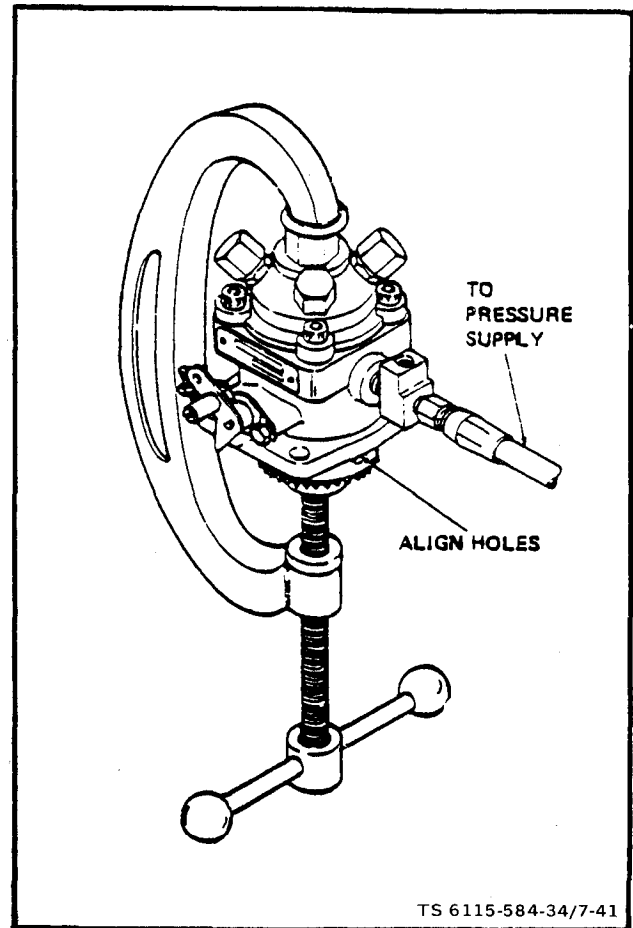
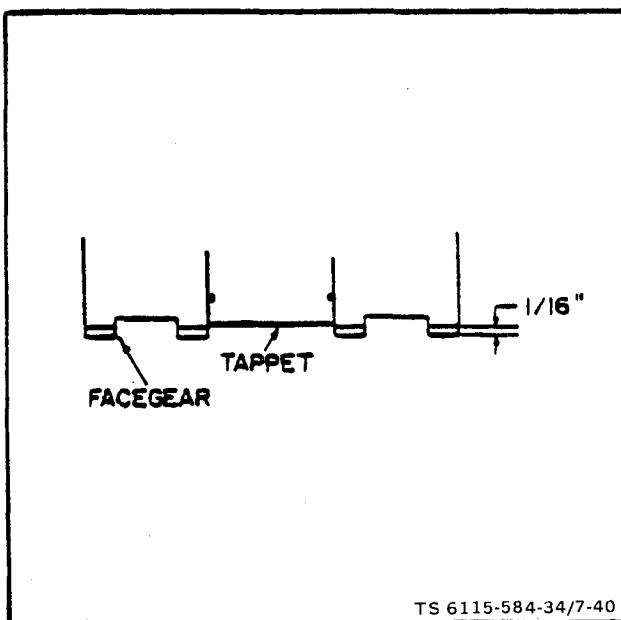

Figure 7-41. Pressure Testing Injection Pump
Figure 7-40. Checking Plunger Sleeve Alignment
(1) Turn pump upside down and depress tappet with thumb. Tappet should recede 1/16" into face gear (figure 7-40). If tappet cannot be depressed 1/16" into face gear, plunger sleeve pin (5, figure 7-34) is improperly aligned. Disassemble pump and re-align pin.
(2) Remove the overflow valve assembly from the fuel outlet hole in the pump housing. Install a 1/4" pipe plug into the fuel outlet hole.
(3) Secure the pump close to a Nozzle Test Stand.
(4) Cap outlet ports (see figure 7-41).
(5) Install C-clamp on injection pumps as shown in figure 7-41 to retain face gear.
(6) Align holes in face gear and housing (see figure 7-41).
(7) Connect the Nozzle Test Stand to the fuel inlet hole in the pump housing.